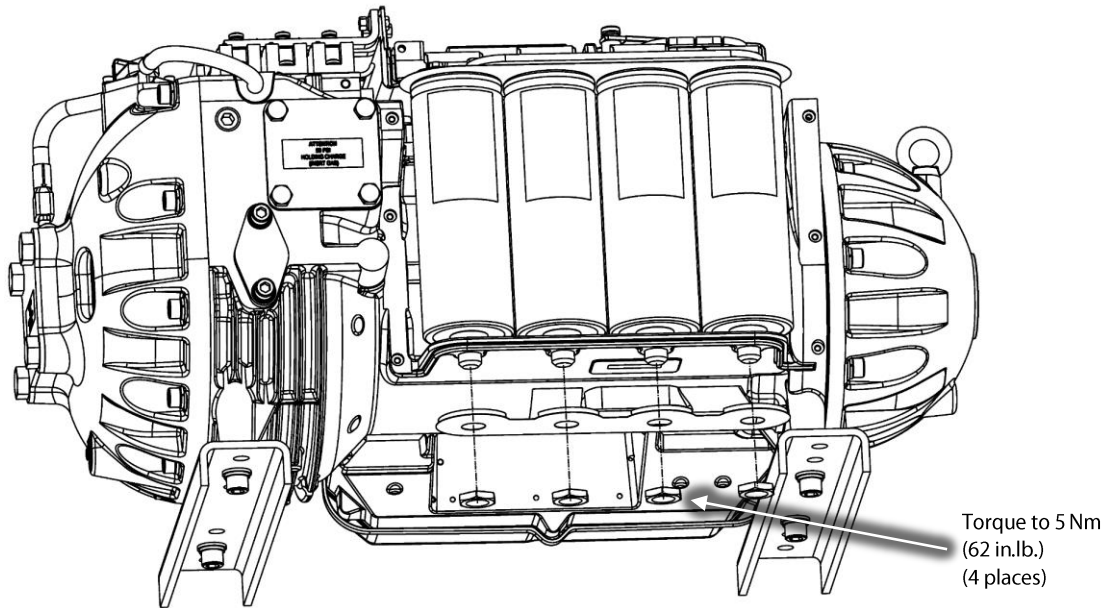

Figure 12 – Capacitor Nut Removal
21. Remove the nylon nuts at the base of the DC capacitor assembly, under the main compressor housing. Refer to Figure 12 (Capacitor Nut Removal).
16. Place the capacitor membrane foil side down, underneath the main compressor housing and then reinstall the nylon nuts to the base of the DC capacitor assembly, under the main compressor housing and torque to specification. Refer to Figure 12 (Capacitor Nut Removal).